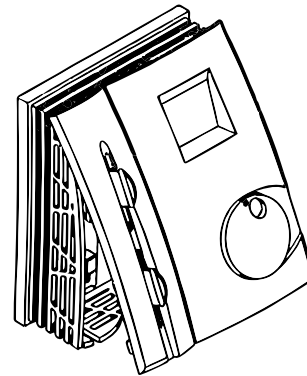

Figure 6
3. Remove the top cover carefully forward and then upward to loosen the top lock. See Figure 6.